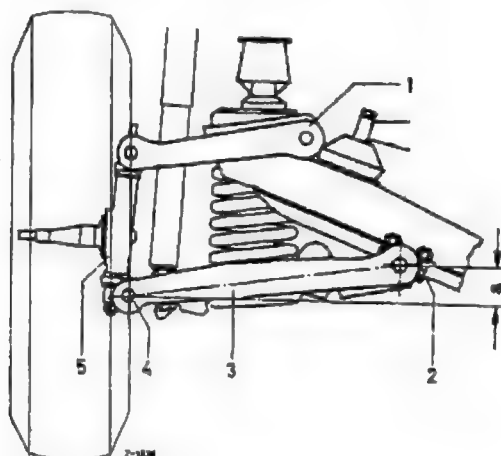

Fig. 40-3/15
The position of the control arms is of very great importance for the riding qualities of the car and the free movement of the wheels at full lock. It depends on the trim dimension of the front springs and the load in the car. The control arm position is measured by determining on the lower control arm the difference in level "a" between the inner fulcrum at the pivot pin (2) and the threaded bolt (4) for the lower connection of the steering knuckle to the control arm (Fig. 40-3/14).